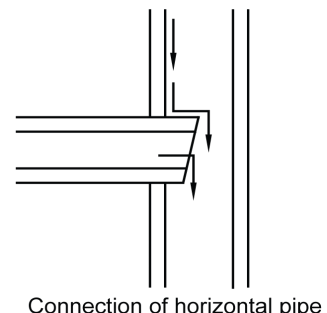

Fig.4.3.5
- 3) Inserting horizontal pipe connection (Fig.4.3.5).